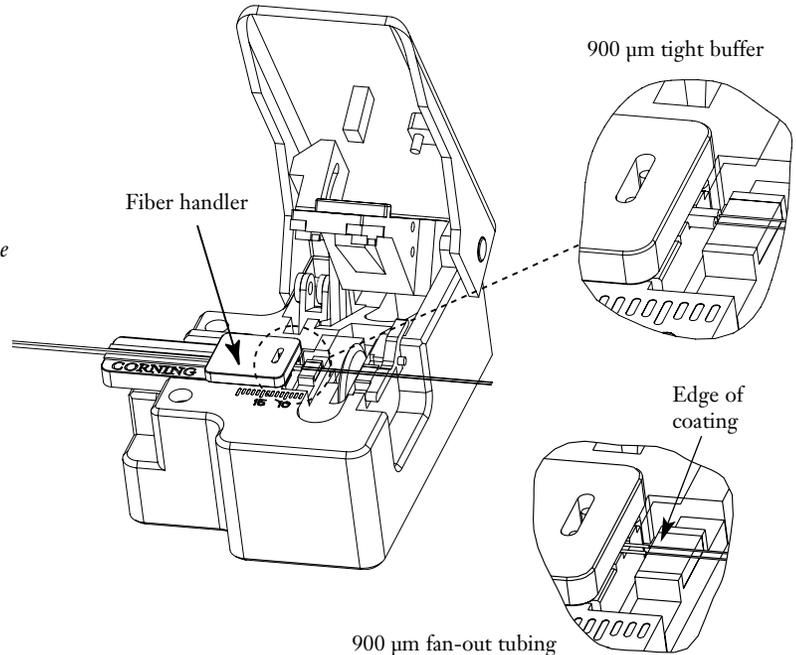

Figure 3-20
**3.6-6** Carefully position the handler in the cleaver so that the edges of the fibers' coatings butt against the edge of the left-hand elastomeric pad (Figure 3-20). The coating should lightly contact the pad's edge. No pressure is required.